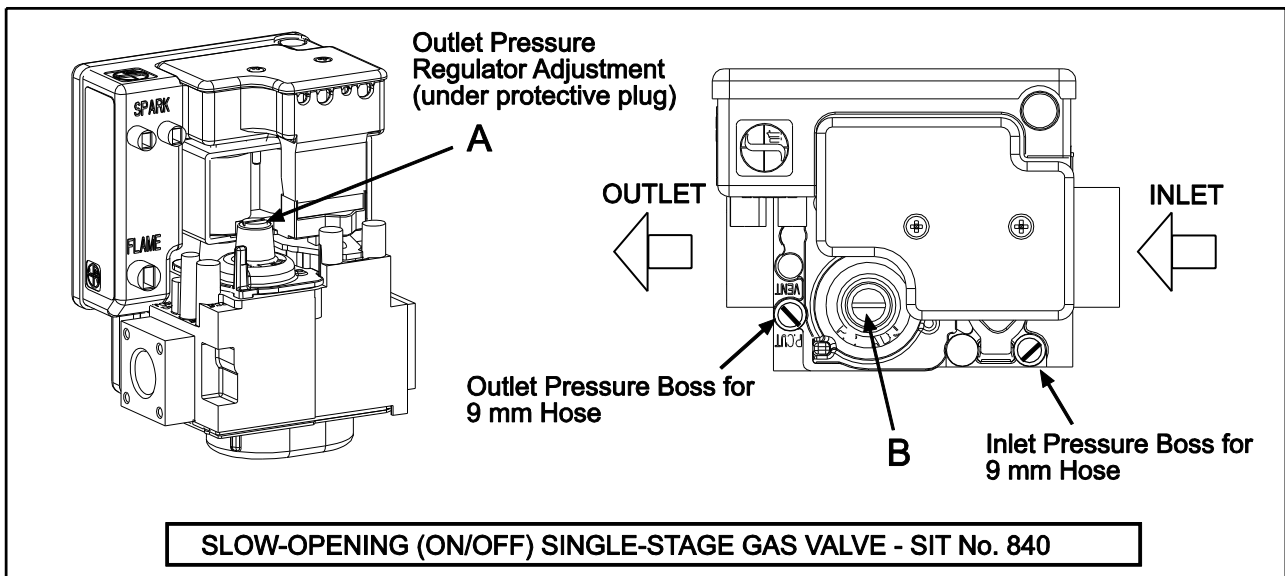

Fig. 37a
- Turn the pressure test screw in the center of the gas valve **INLET** pressure test boss (see Fig. 37a below) not more than one turn **counterclockwise**. Connect the free end of the manometer tube (permanently connected to the manometer test nipple inside the side panel of the control box) to the **INLET** test boss (See Fig. 37a). Close the control box door and secure with the two toggle latches.
- Turn the pressure test screw in the center of the gas valve **OUTLET** pressure test boss (see Fig. 37a below) not more than one turn **counterclockwise**. Connect the free end of the manometer tube (permanently connected to the manometer test nipple inside the side panel of the control box) to the **OUTLET** test boss (See Fig. 37a). Close the control box door and secure with the two toggle latches.
- Disconnect pressure regulator connection "VENT" (if used). Remove the protective plug **A** (see Fig. 37a below). Turn regulator adjustment screw **B** **clockwise**  to **increase pressure**, or **counterclockwise**  to **decrease pressure**. After setting put back the protective plug.